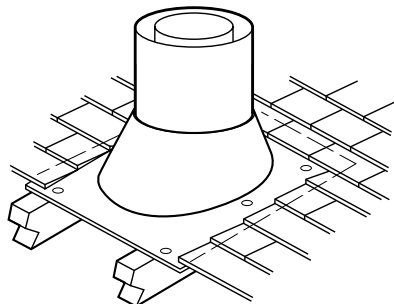

Figure 29
Step 7. Secure flashing by nailing along the perimeter into roof using 8d nails. If shingled roof, slide upper end and sides of roof flashing under shingles (trim if necessary), seal the top and both sides of the flashing to the roof with roof caulking. Cover nail heads with roof caulking (**Figure 29**).